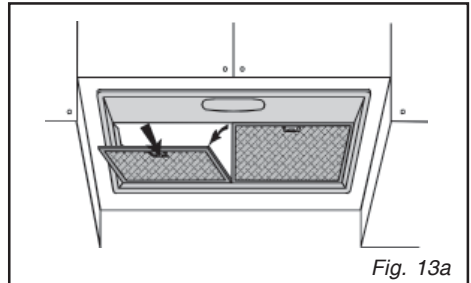

Fig. 13a
• Removing the grease filter (fig.13a-13b)